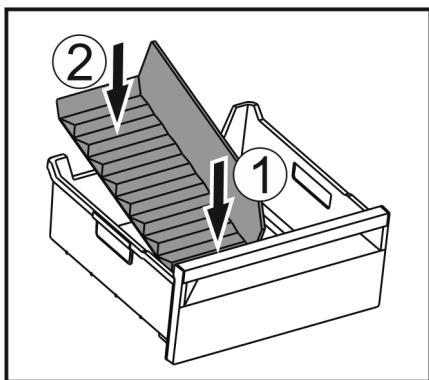

Fig. 160
- Insert the front part of the ice compartment divider. *Fig. 160 (1)*
- Lower the rear part of the ice compartment divider to the drawer bottom. *Fig. 160 (2)*